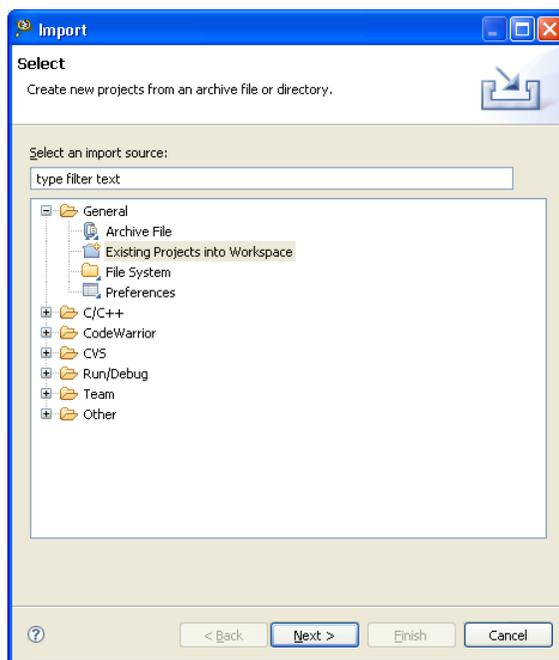

Figure 2-17. CodeWarrior Import Project...
2. Select File -> Import... The Import menu appears as shown in Figure 2-17.